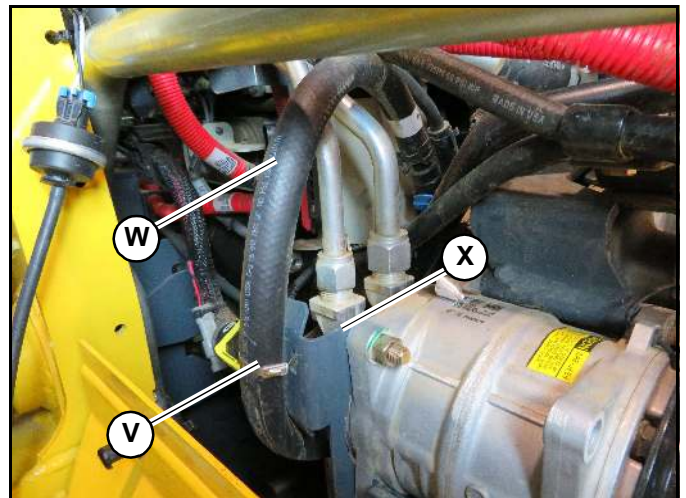

Fig. 51 – Fuel Line Tie Band
32. Remove the tie band (V, Fig. 51) that secures the fuel line (W) to the A/C compressor bracket (X).